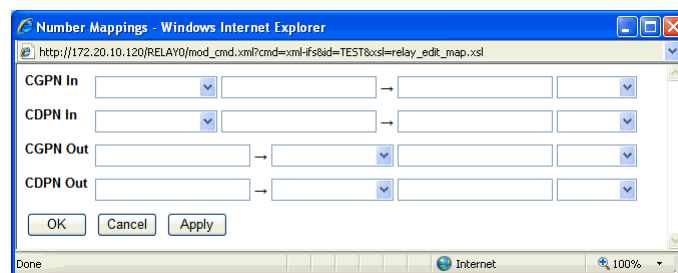

Figure 38. Call number mapping for SIP interfaces
- 4 On each mapping line, a *Call Number Type* can be selected from the *Call Number Type* drop-down list (found on the righthand side of the lines in Figure 38).
- 5 On each mapping line, a *Call Number Format* can be selected from the *Call Number Format* drop-down list (found on the lefthand side of the lines in Figure 38).